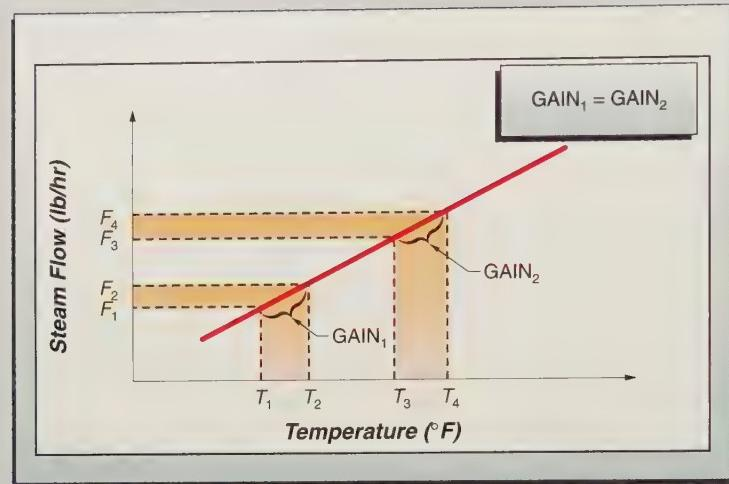

Figure 35-6. The process curve is a straight line for a linear process. This means that the gains at all the points on the curve are equal.
Linear Process Gain. A *linear process* is a process where the gain at any value of the process variable (PV) is the same as the gain at any other value. The process curve for a linear process is a straight line. An example of a linear process is a heat exchanger where a change in the steam flow rate linearly changes the process fluid temperature. See **Figure 35-6**. Most processes are approximately linear, but there are some that are very nonlinear.